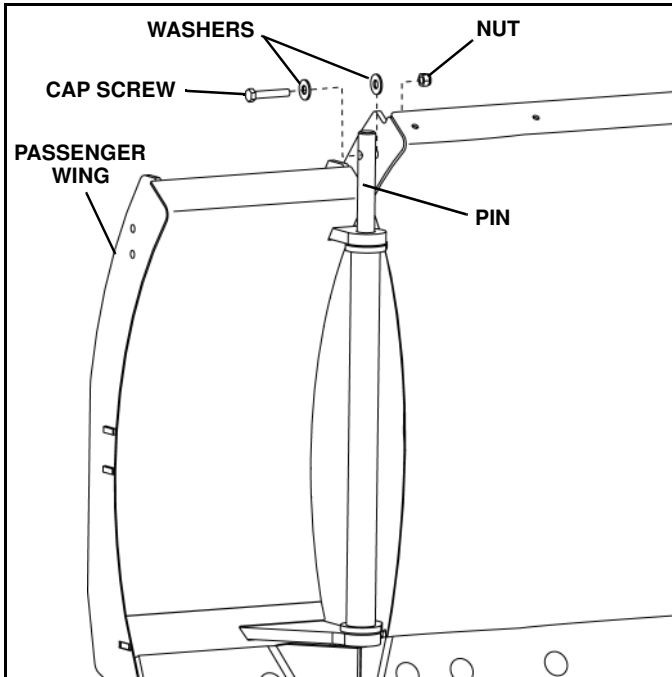

Figure 1-14
1. Align right wing with blade. Coat pin with grease and insert completely through blade and wing. Install a 5/16"-13 x 1-3/4" hex head cap screw and one 5/16" flat washer through the pin, a second 5/16" flat washer and the blade. Secure with a 5/16" locknut. Tighten the nut, but do not torque. (See Figure 1-14)